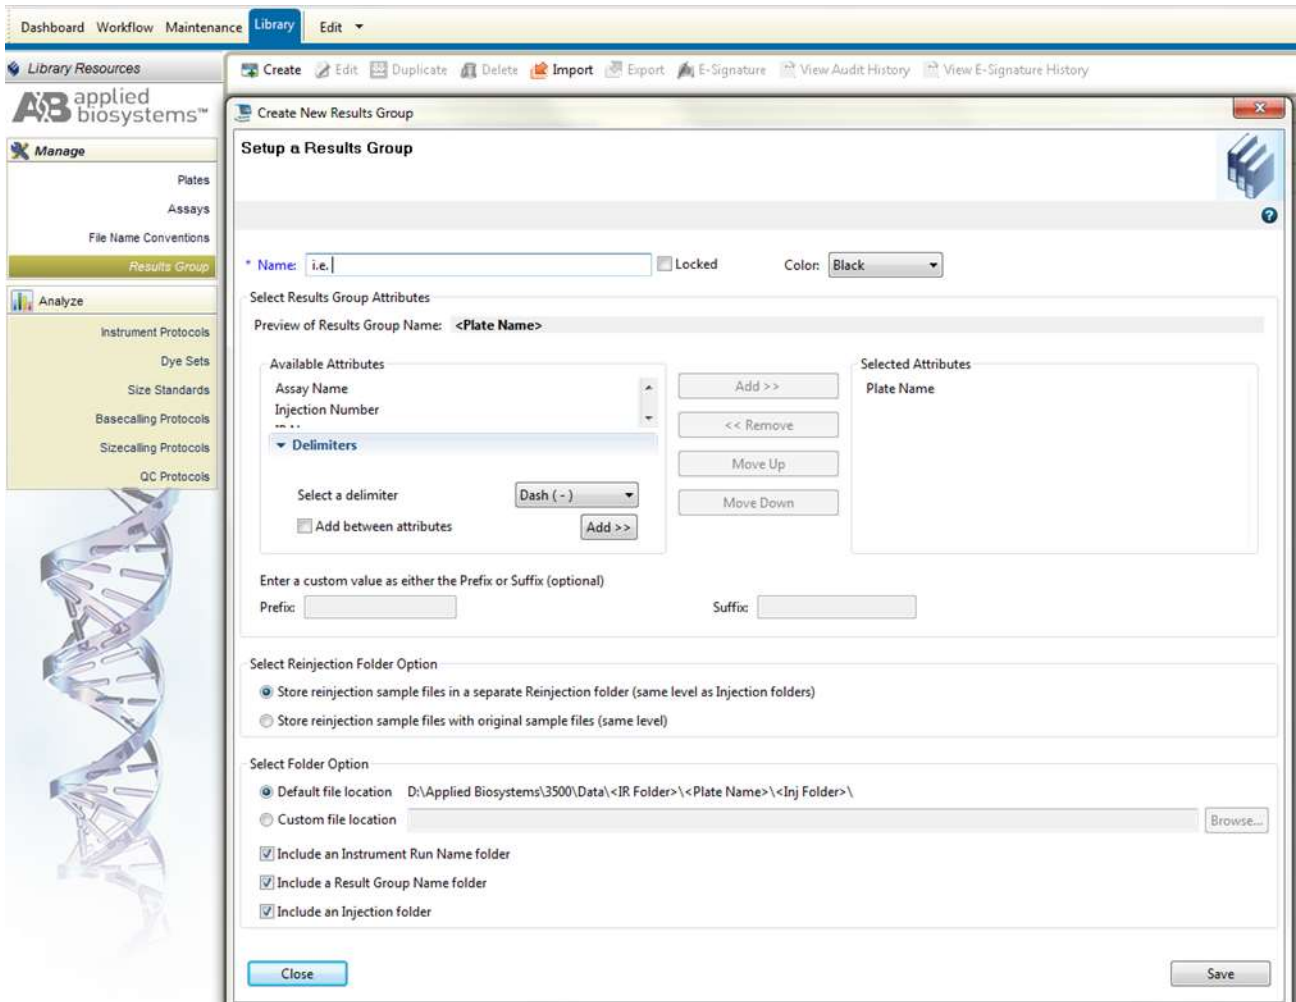

Figure 10. Screenshot for the “Create New Result Group” window on Applied Biosystems® 3500 Data Collection software
- c) select “Create” (Figure 10)